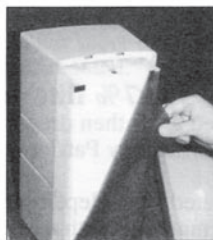

fig. 3
2. Press and release the filter cover (fig. 3).
3. Detach the pre-filter foam sheet from the retaining "Velcro" strips (fig. 3).